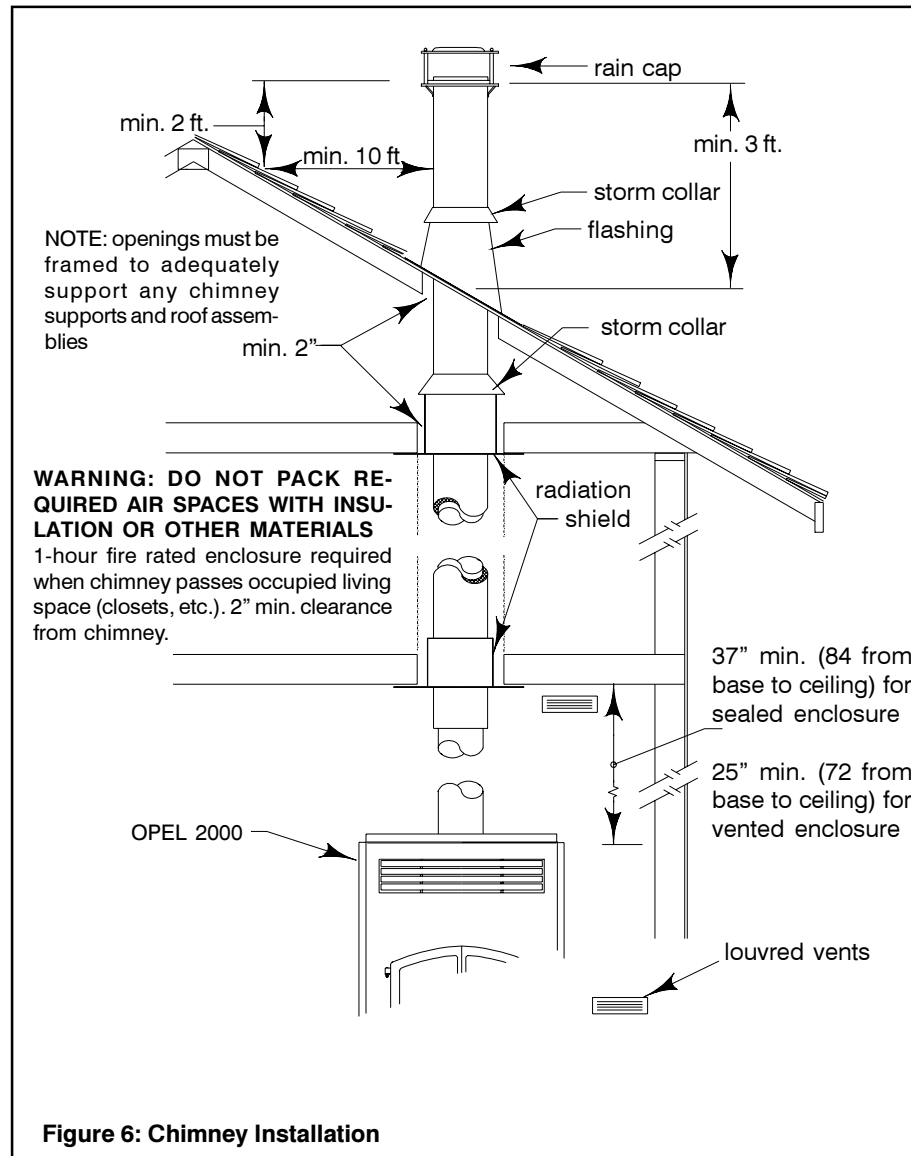

Figure 6: Chimney Installation
2. From below, install a radiation shield in each floor through which the chimney passes. At the attic level, install a radiation shield and a storm collar as shown in figure 6).